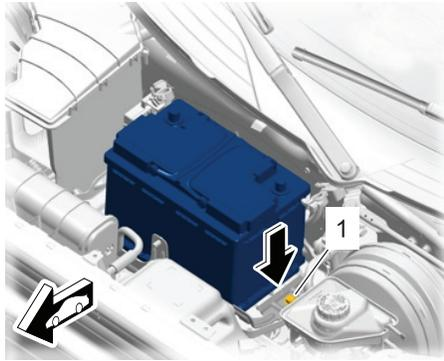

Fig. 8 Battery rail installation
2. Fit rail and secure with fastening screw (1), **Fig. 8**. **Torque** screw to 17 ft. lbs.